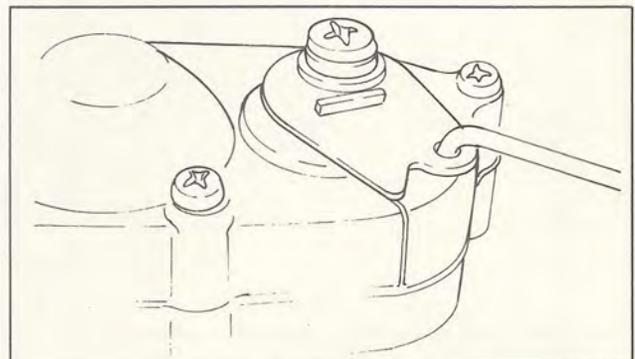

Fig. 2-47
- 3) The oil pump control rod adjustment should be made with the throttle fully opened. As illustrated, using two nuts, align the mark on the oil pump case cover with the hole in the control lever end. (Fig. 2-47)